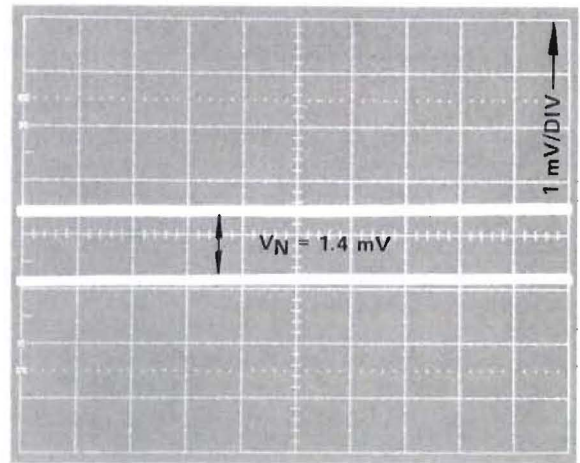

Figure 43 Measuring Separation between Two Traces
4. Disconnect the inputs and measure the separation between the two traces in volts. This is VN (Figure 43).